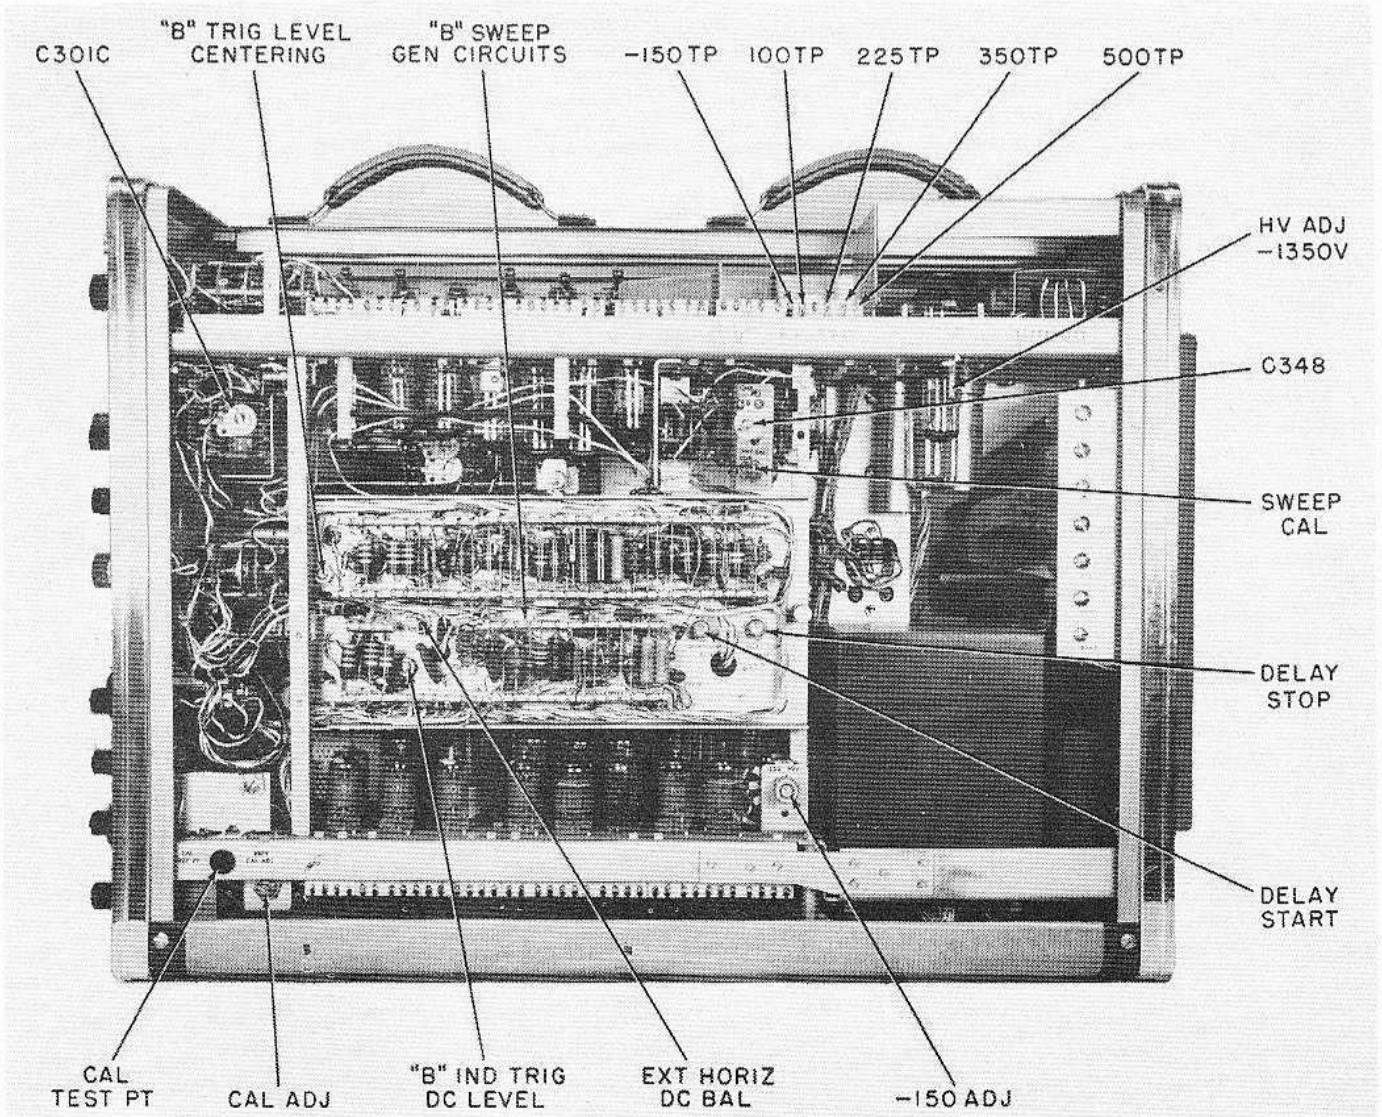

Figure 7-2. Oscilloscope Right Side View
- a. Connect Model 801 differential voltmeter to the -150 volts dc test point (see figure 7-2).
- b. Adjust the -150 Adj. (see figure 7-2) for exactly -150 volts dc.
- b. Connect Model 801 differential voltmeter to the Cal Test Point (see figure 7-2).
- c. Adjust the Cal Adj (see figure 7-2) for exactly 100 volts dc.
b. Adjust the H.V. Adj. for exactly -1350 volts dc (see figure 7-2).
c. Set multimeter on its lowest scale which provides an on-scale reading, and adjust the 'B' Int Trig DC Level (see figure 7-2) for exactly zero volts.
f. Adjust the Trig. Level Centering potentiometer (see figure 7-2) to the exact center of area which provides a square wave of approximately 1.5 cm on the shop standard oscilloscope.